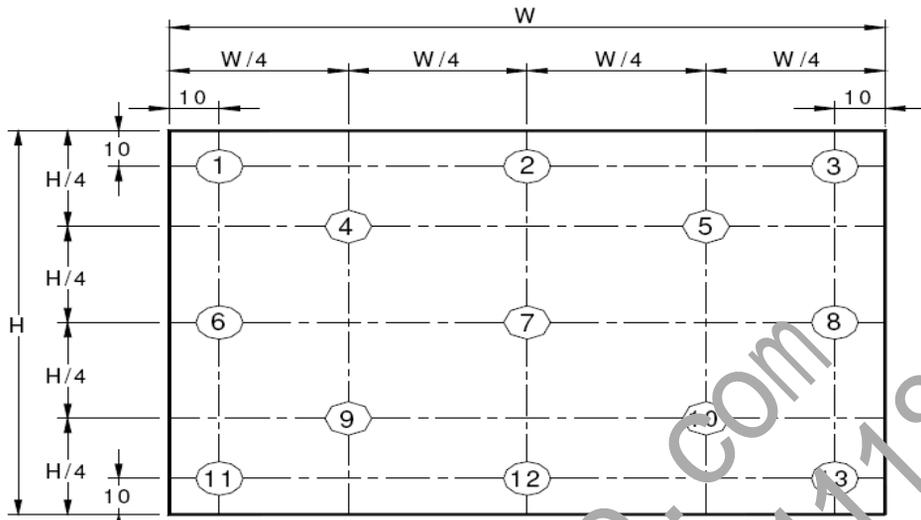

Figure 9. Uniformity Measurement Locations (13 points)
- The White luminance uniformity on LCD surface is the ΔY expressed as : $\Delta Y = \text{Minimum Luminance of 5(or 13) points} / \text{Maximum Luminance of 5(or 13) points}$. (see Figure 8 and Figure 9).
The White luminance uniformity on LCD surface is then expressed as: ΔY_5 = Minimum Luminance of five points / Maximum Luminance of five points (see Figure 8), ΔY_{13} = Minimum Luminance of 13 points / Maximum Luminance of 13 points (see Figure 9).